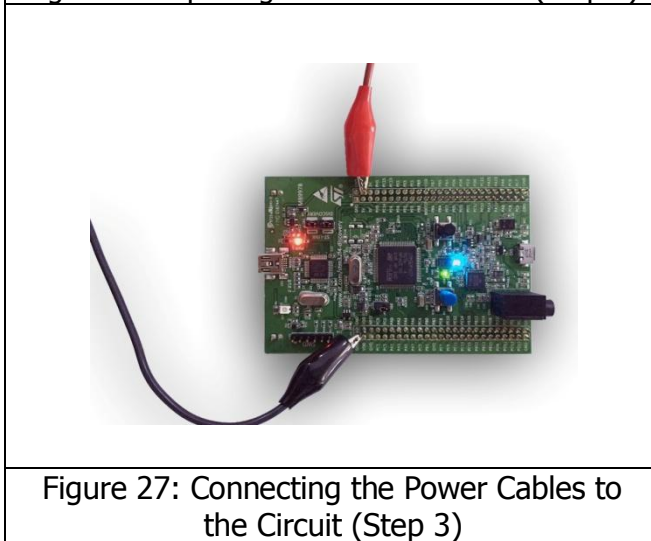

Figure 27: Connecting the Power Cables to the Circuit (Step 3)
- The Power Cable is connected to the power supply of the electronic circuit Red Cable (+), Black cable (-). (Figure 27)